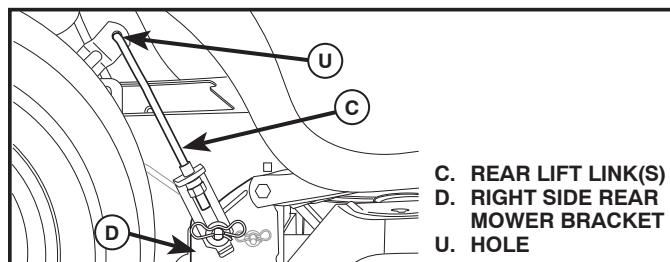

Fig. 12
## 7. ATTACH REAR LIFT LINKS (C) (See Fig. 12)
- Insert rod end of rear lift link (C) into hole (U) in tractor lift shaft suspension arm and pivot link down to mower.
- Lift rear corner of mower and position slot in link assembly over pin on rear mower bracket (D) and secure with large washer and large retainer spring.